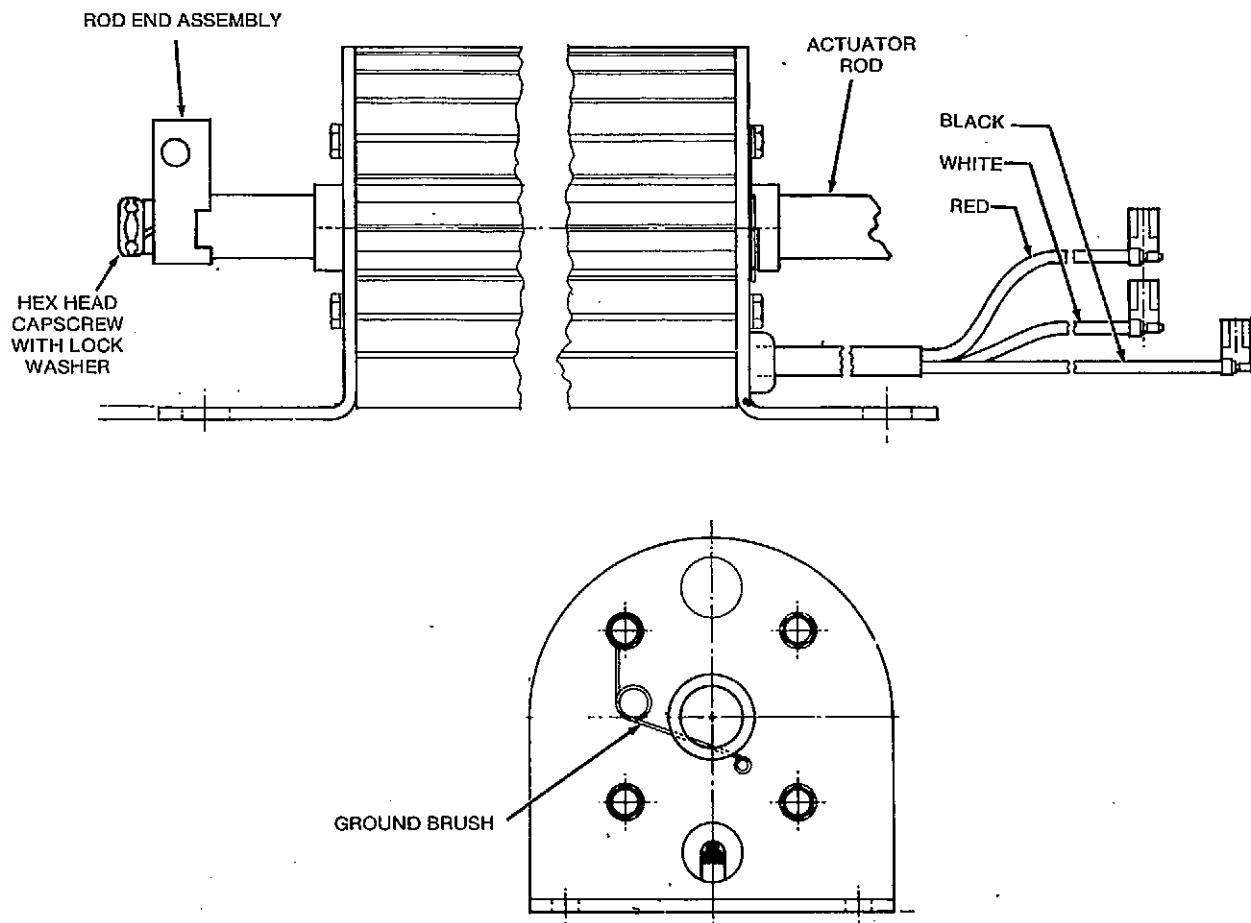

FIGURE 20. LINEAR ACTUATOR
10. Remove rod end assembly from actuator rod (see Figure 20) and slide rod out of the actuator motor.
1. Insert the actuator rod into the replacement actuator motor (see Figure 20). Hold the actuator ground brush up slightly to allow passage of the actuator rod. Install the rod end assembly and tighten capscrew to 10 to 12 ft-lbs (13.6 to 16.3 N•m).